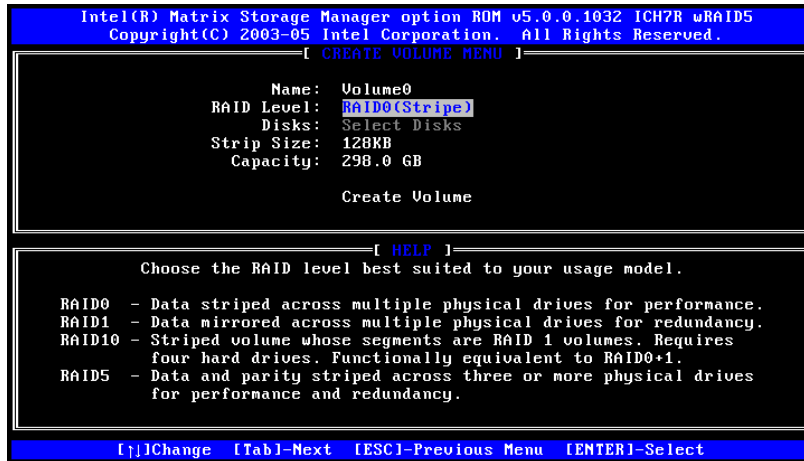

Figure F-3: Choose the Raid Level
Step 3: Choose the RAID level. Select a RAID level from the list. RAID levels include RAID 0, 1, 5 and 10. See **Figure F-3**.